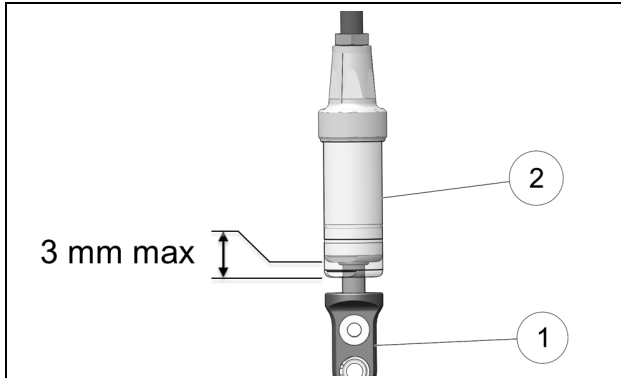

Figure 72
Check for excessive play between the Soft Strut's lower mount point (1) and body (2). If play is more than 3 mm, replace the Strut stem's inner urethane bushing. See Figure 72.